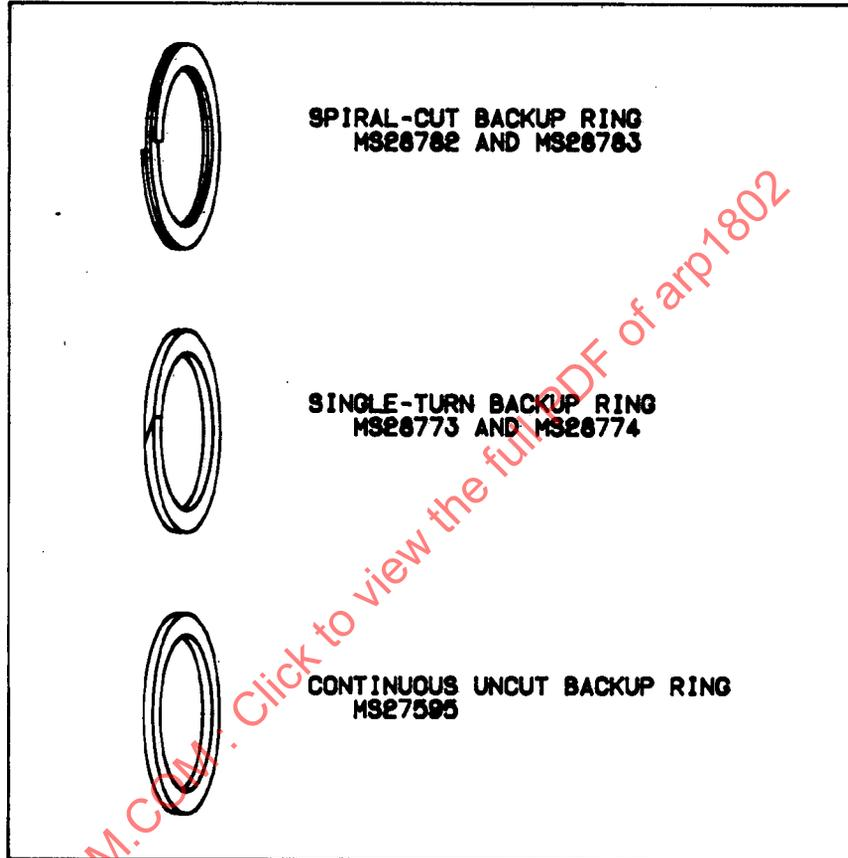

FIGURE 5
5.1 Basic Types: There are three basic types of backup rings in use (Figure 5). Dimensional details and material vary depending upon whether the ring is manufactured to a Military Standard (MS) or to one of the many commercial standards.